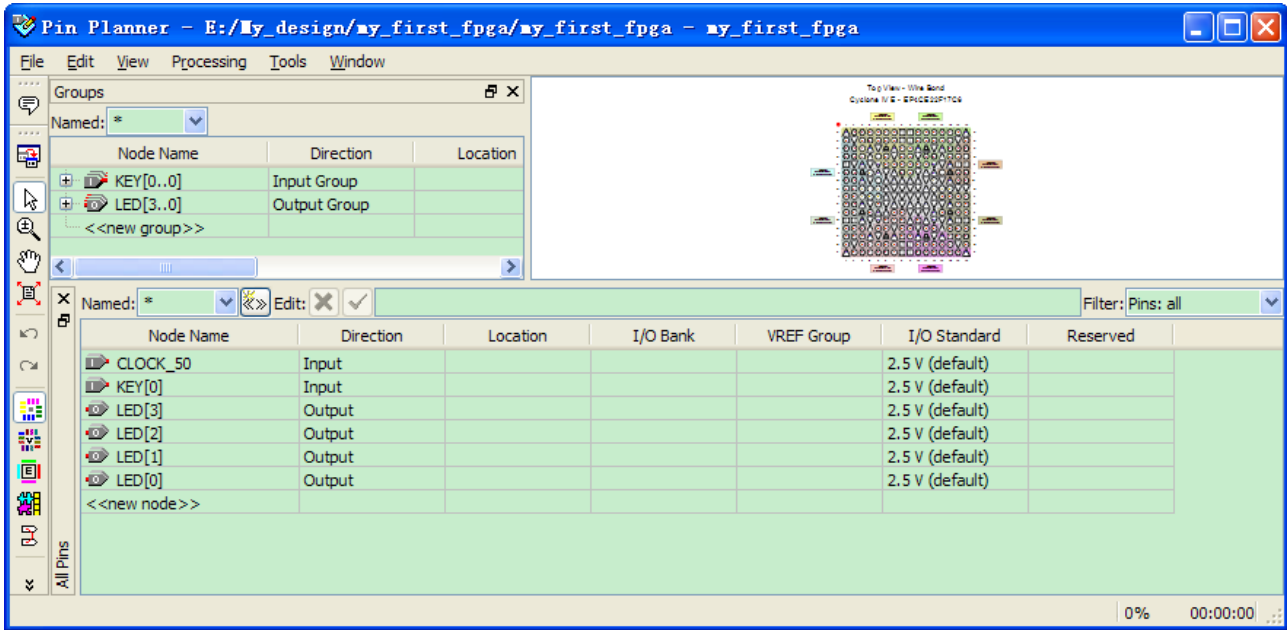

Figure 3-30 Pin Planner Example
1. Choose Assignments > Pins, which opens the Pin Planner, a spreadsheet-like table of specific pin assignments. The Pin Planner shows the design’s six pins. See **Figure 3-30**